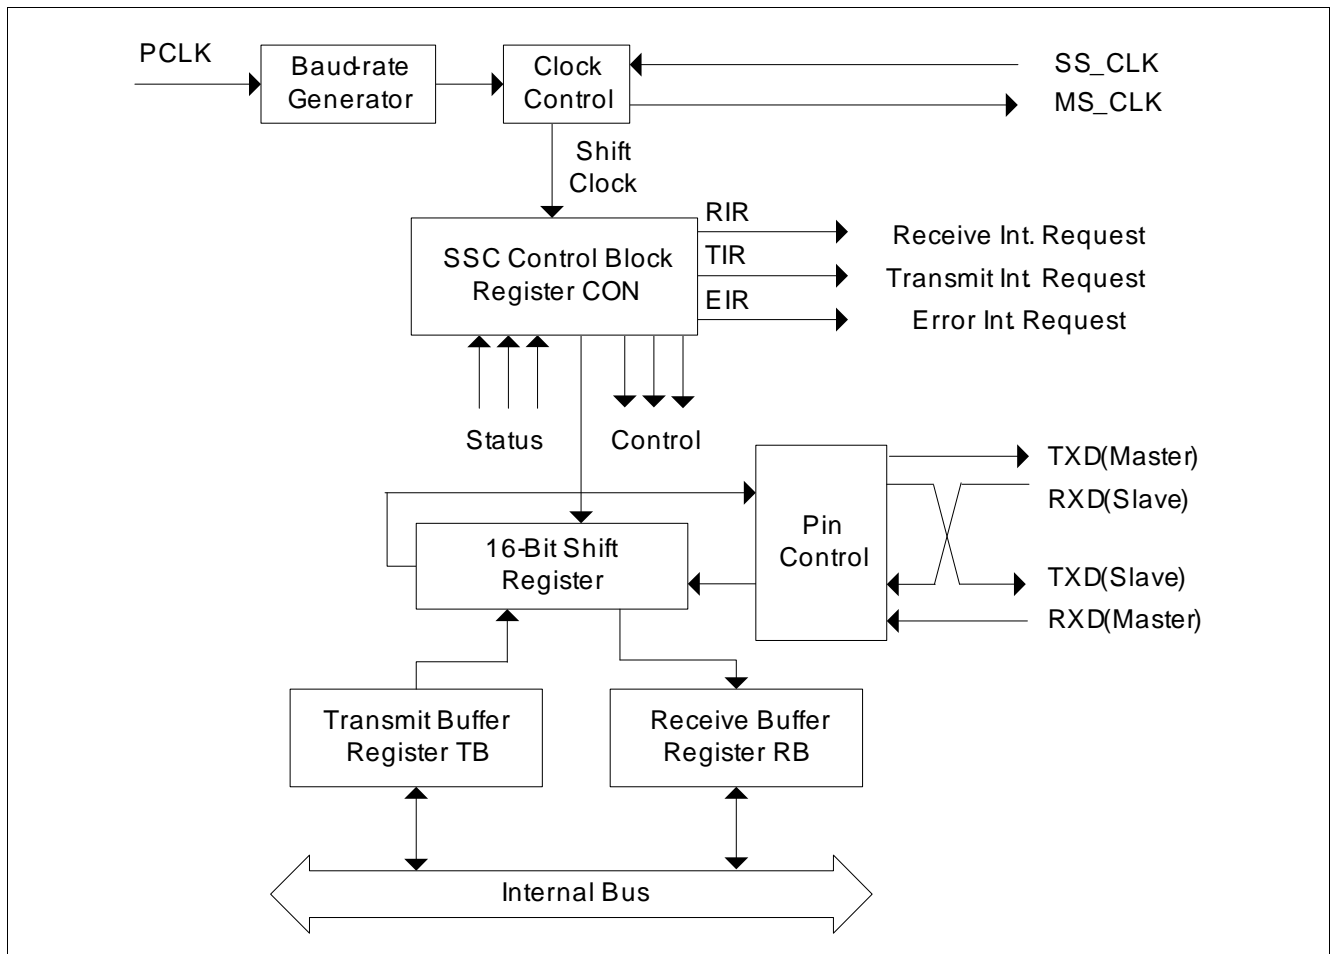

Figure 179 Synchronous Serial Channel SSC Block Diagram
The shift register of the SSC is connected to both the transmit lines and the receive lines via the pin control logic (see block diagram in Figure 179). Transmission and reception of serial data are synchronized and take place at the same time, i.e. the same number of transmitted bits is also received. Transmit data is written into the Transmit Buffer (TB) and is moved to the shift register as soon as this is empty. An SSC master (CON.MS = 1) immediately begins transmitting, while an SSC slave (CON.MS = 0) will wait for an active shift clock. When the transfer starts, the busy flag CON.BSY is set and the Transmit Interrupt Request line TIR will be activated to indicate that register TB may be reloaded again. When the programmed number of bits (2 ... 16) has been transferred, the contents of the shift register are moved to the Receive Buffer RB and the Receive Interrupt Request line RIR will be activated. If no further transfer is to take place (TB is empty), CON.BSY will be cleared at the same time. Software should not modify CON.BSY, as this flag is hardware controlled.
The serial channel SSC has its own dedicated 16-bit baud-rate generator with 16-bit reload capability, allowing baud rate generation independent of the timers. **Figure 179** shows the baud-rate generator. **Figure 183** shows the baud-rate generator of the SSC in more detail.